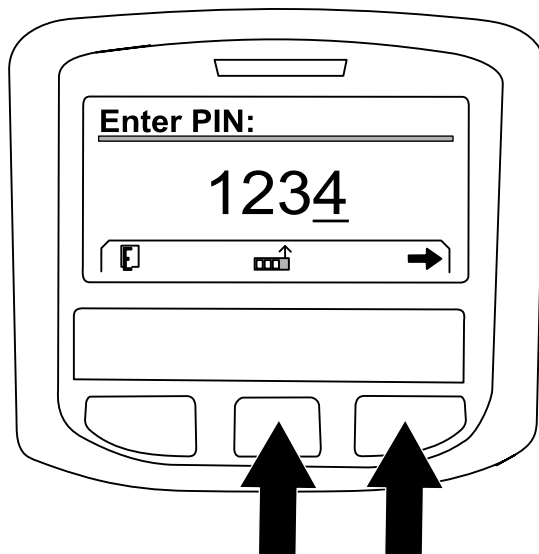
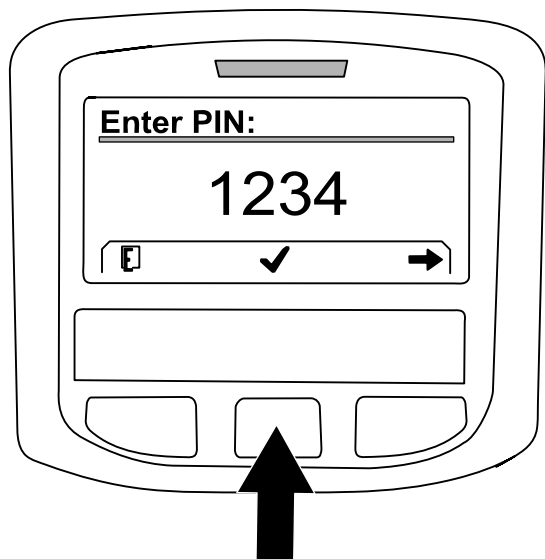

Figure 228
Figure 229
- A. Press press the center button as needed to enter the PIN code number for the left position (Figure 228).
- B. Press press the right button to navigate to the next PIN code number position (Figure 228).
- D. When all the PIN code numbers are entered press the right button (Figure 228) and then press the center button to enter the PIN code (Figure 229). The indicator light illuminates briefly.